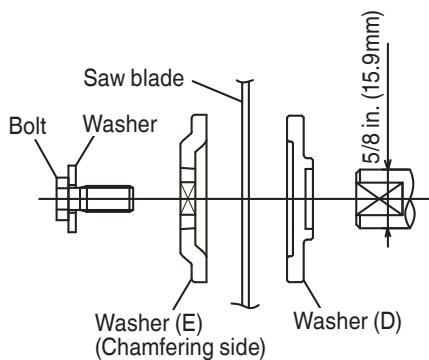

Fig. 34-d
- (7) Press in the spindle lock and tighten the bolt by turning it to the left by standard accessory's wrench (10mm box wrench) as indicated in Fig. 34-c.